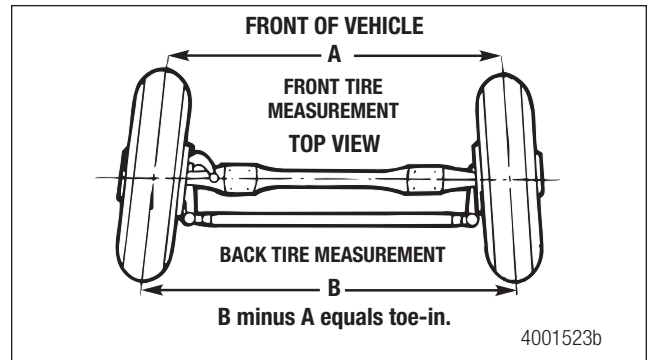

Figure 9.9
8. To obtain the toe measurement, subtract the distance between the front of the tires from the distance between the back of the tires. Figure 9.9.